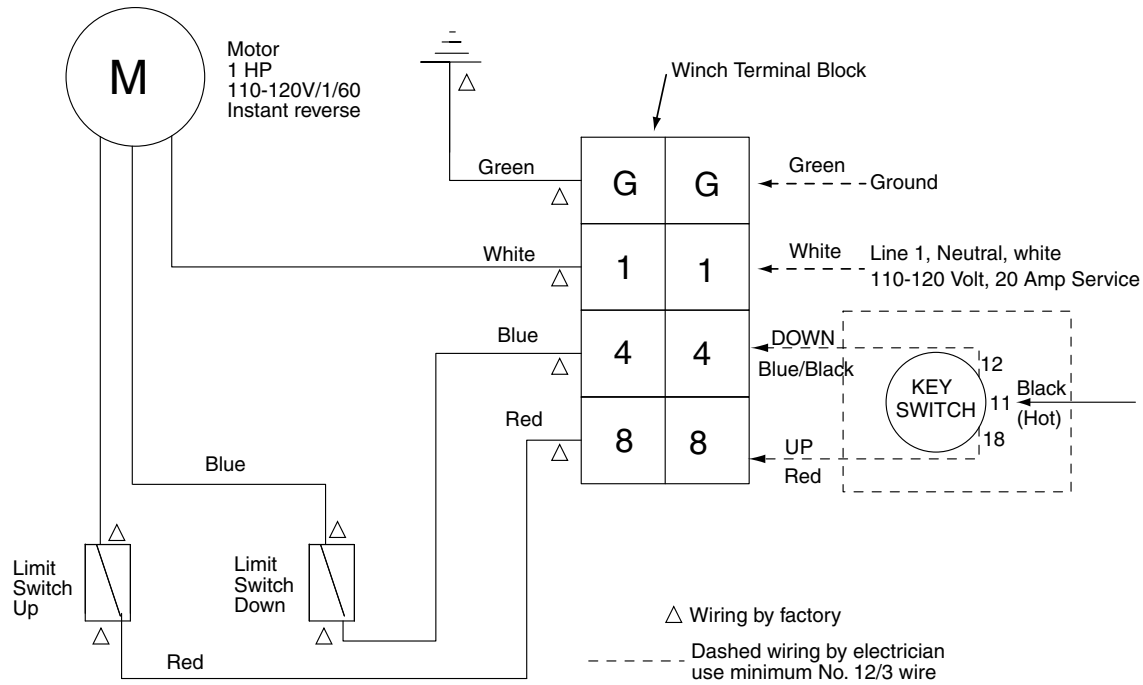

Figure W-3—Wiring Diagram
Winch Wiring (see Wiring Diagram, Fig. W-3)
- ① All wiring from junction box to Key Switch must be completed by electrical contractor (see figures W-3 and W-7).
- ② DO NOT wire winch into junction box until making sure power to the junction box is disconnected (circuit breaker is off).
- ③ If key switch operates winch in reverse ("Down" is "Up"), turn off power to junction box and switch wires.
- ④ Install key switch so operator has unobstructed view of backstops.